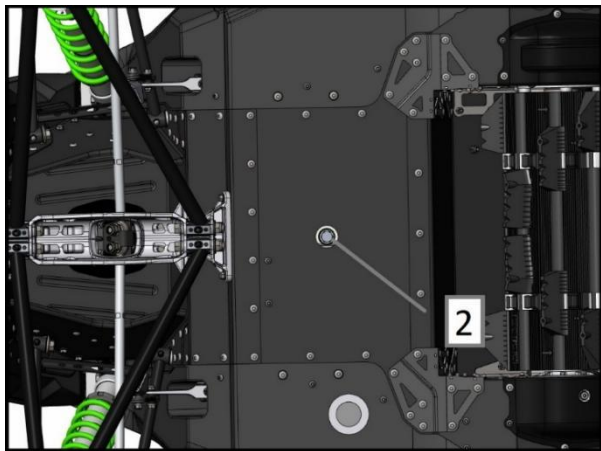

Fig.10
6. Unscrew the oil drain plug (position 2, figure 10) at the 17 mm end, unscrew the oil dipstick and wait for the oil to drain completely.